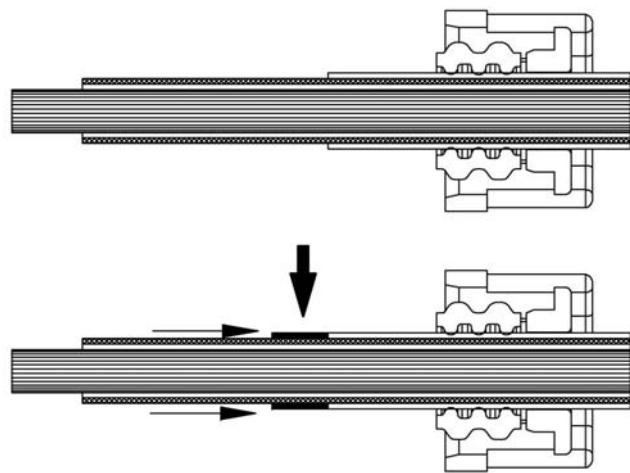

Figure 5
- Slide the inner ferrule 1587583-[ ] over the braided cable shield until it contacts the outer jacket as shown in Figure 5.